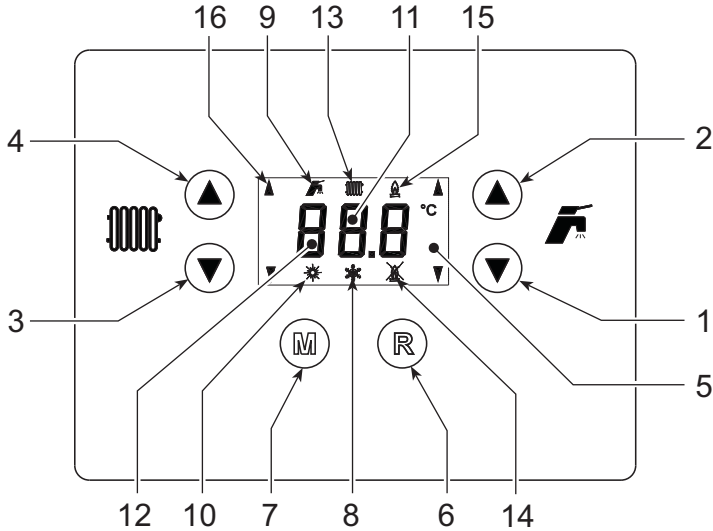
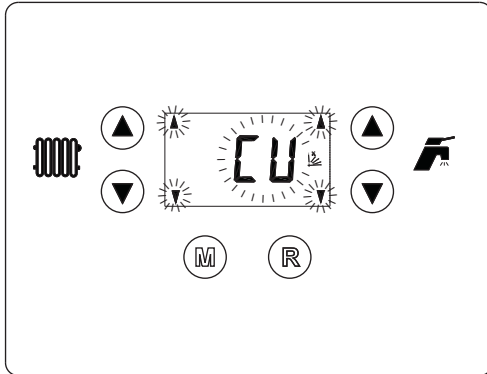
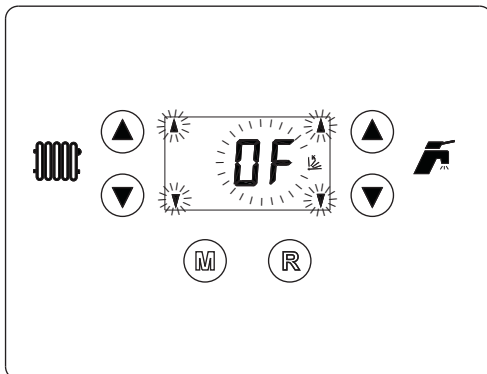
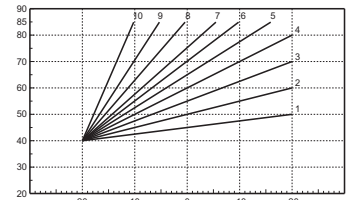

fig. 1 - Control panel
fig. 11 - Compensation curve
fig. 12 - Parallel curve offset
fig. 14 - Example of compensation parallel curve offset
A heating demand (generated by the Room Thermostat or Remote Timer Control) is indicated by activation of the radiator (detail 13 - fig. 1).
A hot water tank heating demand is indicated by activation of the tap (detail 9 - fig. 1).
When hot water tank heating is on (default setting), the comfort symbol (detail 12 - fig. 1) is activated on the display. The hot water tank can be activated/deactivated by the user through the selection menu.
Press the button (M) (detail 7 - fig. 1). The display will indicate the selection, which can be modified by operating the DHW buttons (details 1 and 2 - fig. 1): set ECO (Economy) or CON (Comfort) and confirm by pressing the button (M) (detail 7 - fig. 1).
Press the button **(M)** (detail 7 - fig. 1) for 5 seconds.
To relight the boiler, press the button **(M)** (detail 7 fig. 1) again for 5 seconds.
Press the button **(R)** (detail 6 - fig. 1) for 1 second.
The display activates the Summer symbol (detail 10 - fig. 1): the boiler will only deliver domestic hot water. The antifreeze system remains activated.
To deactivate Summer mode, press the button **(R)** (detail 6 - fig. 1) again for 1 second.
Operate the heating buttons fig. 1 (details 3 and 4 -) to adjust the temperature from a min. of 30 °C to a max. of 85 °C; it is advisable not to operate the boiler below 45 °C.
Use the DHW buttons (details 1 and 2 - fig. 1) to adjust the temperature from a min. of 10°C to a max. of 65°C.
With Sliding Temperature adjustment, the temperature set with the heating buttons fig. 1 (details 3 and 4 -) becomes the maximum system delivery temperature. It is advisable to set a maximum value to permit system adjustment throughout its useful working range.
Press the button **(R)** (detail 6 - fig. 1) for 5 seconds to access the "Sliding temperature" menu; the display shows "CU" flashing (fig. 11).
Operate the DHW buttons (details 1 and 2 - fig. 1) to adjust the curve from 1 to 10 according to the characteristic (fig. 13). By setting the curve to 0, sliding temperature adjustment is disabled.
Press the heating buttons fig. 1 (details 3 and 4 -) to access parallel curve offset; the display shows "OF" flashing (fig. 12). Operate the DHW buttons (details 1 and 2 - fig. 1) to adjust the parallel curve offset according to the characteristic (fig. 14).
Press the button **(R)** (detail 6 - fig. 1) again for 5 seconds to exit the "Sliding Temperature" menu.
Eco/Comfort selection	On disabling DHW from the Remote Timer Control menu, the boiler selects the Economy mode. In this condition, the button (M) (detail 7 - fig. 1) on the boiler panel is disabled. On enabling DHW from the Remote Timer Control menu, the boiler selects the Comfort mode. In this condition one of the two modes can be selected with the button (M) (detail 7 - fig. 1).